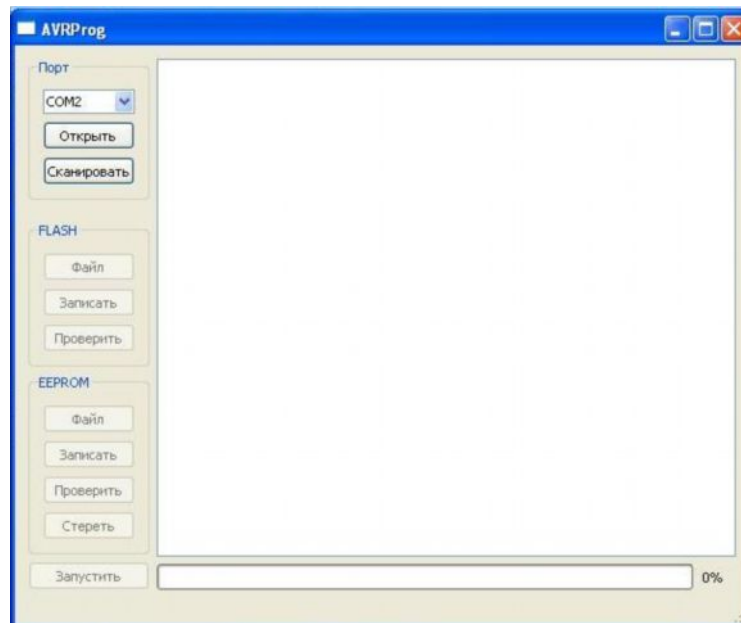

Fig.2
2. Close the programs using the port to which the modem is going to be connected. Click the “Scan” button in the program window. Select the port number of the Com port to which the modem is going to be connected. (Fig.2)